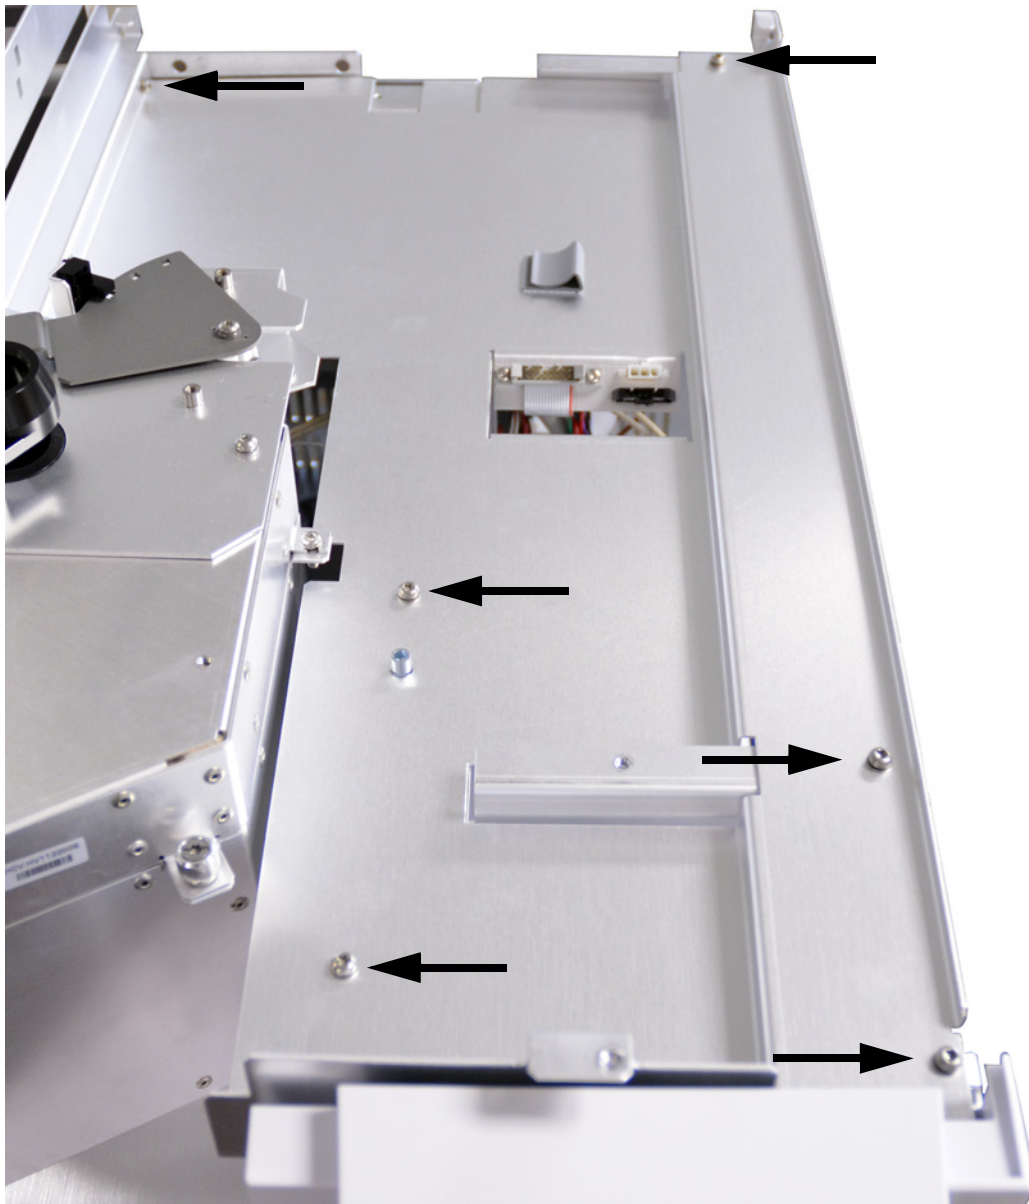

Figure 6 Remove six T-20 Torx screws
- 4 Using a T-20 Torx driver, remove the six screws that secure the top tray base plate to the headspace (Figure 6), then lift the top tray base plate from the headspace.